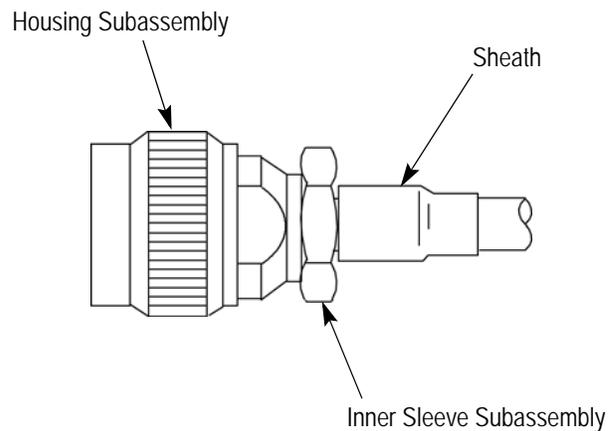

Figure 6
3.4. Securing Housing to Inner Sleeve Subassembly and Shrink Sheath (Figure 6)
3. Position sheath over outer sleeve as shown in Figure 6.